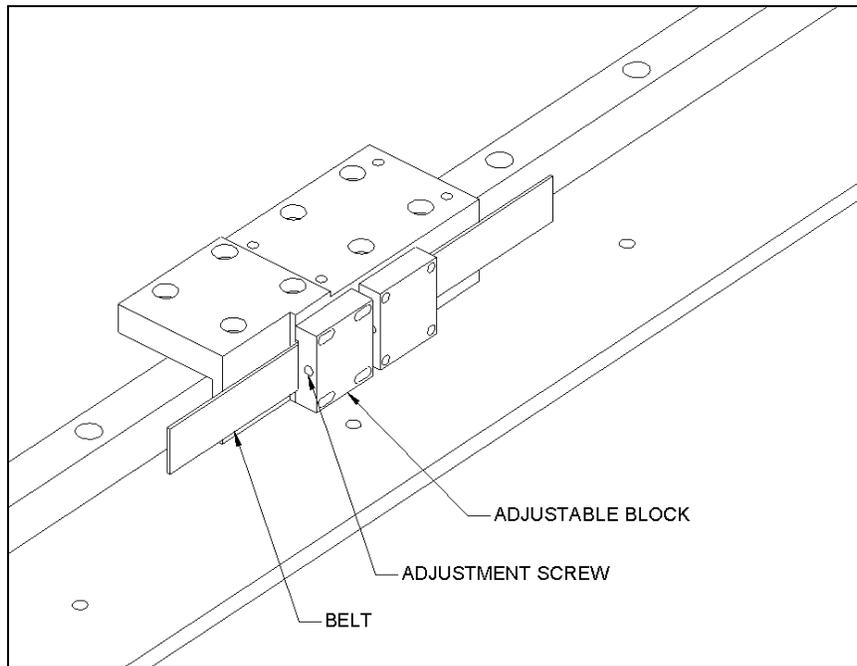

Figure 7-62 X-Drive Belt Adjustment Block
- 1 Loosen (by one-half turn only) the four screws that secure the adjustable block to the X carriage (Figure 7-62).